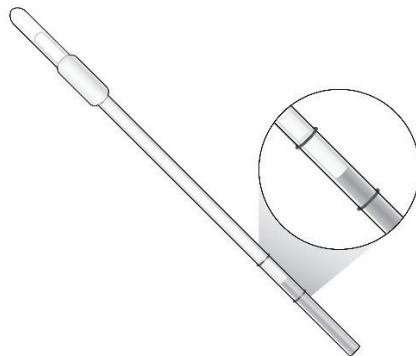

Figure 2. Representation of an Appropriate Sample Buffer Level Using the Disposable Transfer Tool (DTT).
11. Using the DTT, aspirate the Sample Buffer by squeezing the entire bulb. The liquid level into the DTT must be anywhere between the two marks (**Figure 2**). If the liquid level is not between the two marks, discharge the SB volume completely in the SBT by squeezing the entire bulb and repeat step 11.